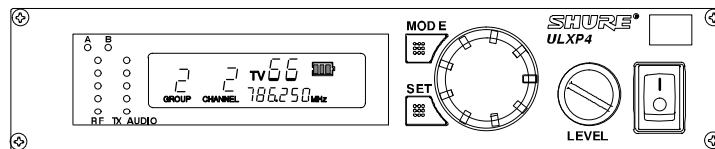

FIGURE 38
3. When all Groups have been scanned, the Group with the most open Channels* will appear on the display, as shown in Figure 38.